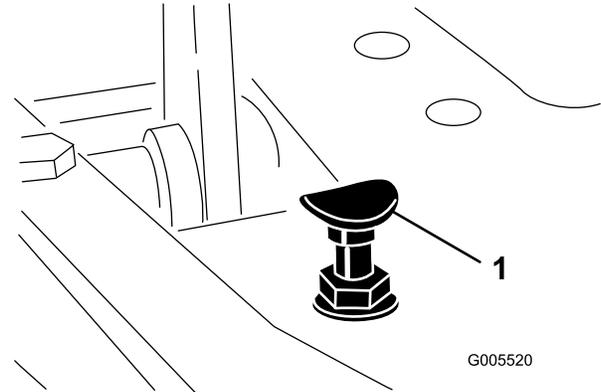

Figure 44
To obtain the maximum-transport speed, put the functional control lever in the TRANSPORT position and press down on the traction pedal. If the pedal contacts the stop (Figure 44) before you feel tension on the cable, perform the following adjustment procedure:
1. Put the functional-control lever in the TRANSPORT position and loosen the locknut securing the pedal stop to the floor plate (Figure 44).